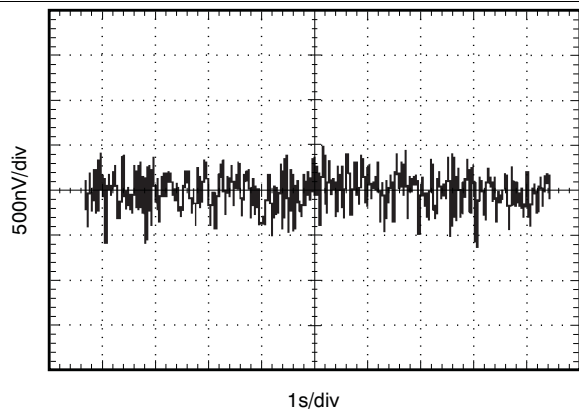

Figure 17. 0.1-Hz to 10-Hz Noise
0.1-Hz to 10-Hz Noise	Figure 17